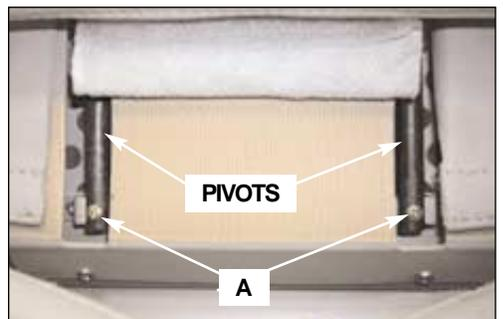

FIG. 309:
- (1) Remove two screws (A) (see fig. 309).
- (2) Pull both pivots slightly forward to dislodge them, then remove headrest by pulling it down.